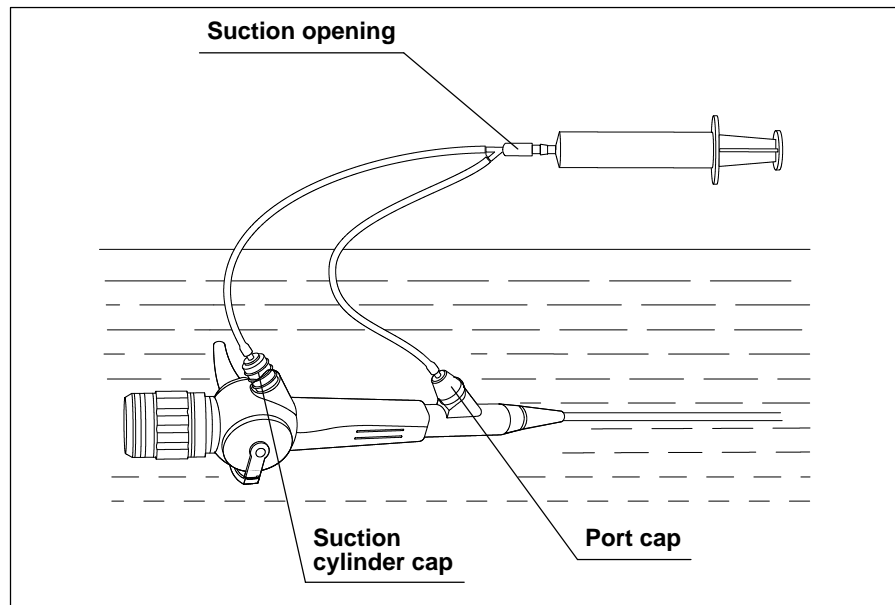

Figure 7.11
1. Attach the suction cleaning adapter's port cap to the instrument channel port. Attach the suction cylinder cap to the suction cylinder (see Figure 7.11).
3. Withdraw the plunger of the syringe to fill the instrument/suction channels and suction cleaning adapter with the detergent solution (see Figure 7.11).
4. Attach the 30 cm³ (30 ml) syringe to the suction cleaning adapter. Withdraw the plunger of the syringe to fill the instrument/suction channels and suction cleaning adapter with the detergent solution (see Figure 7.11).